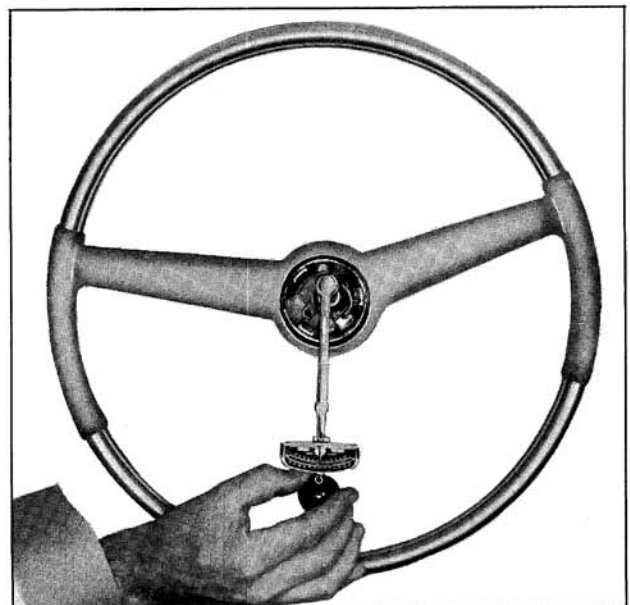

Fig. 8-8 Checking Worm Bearing Pre-load
- Using an inch pound torque wrench measure the torque which is required to keep the wheel in motion at about 30° off straight ahead position. (Fig. 8-8)